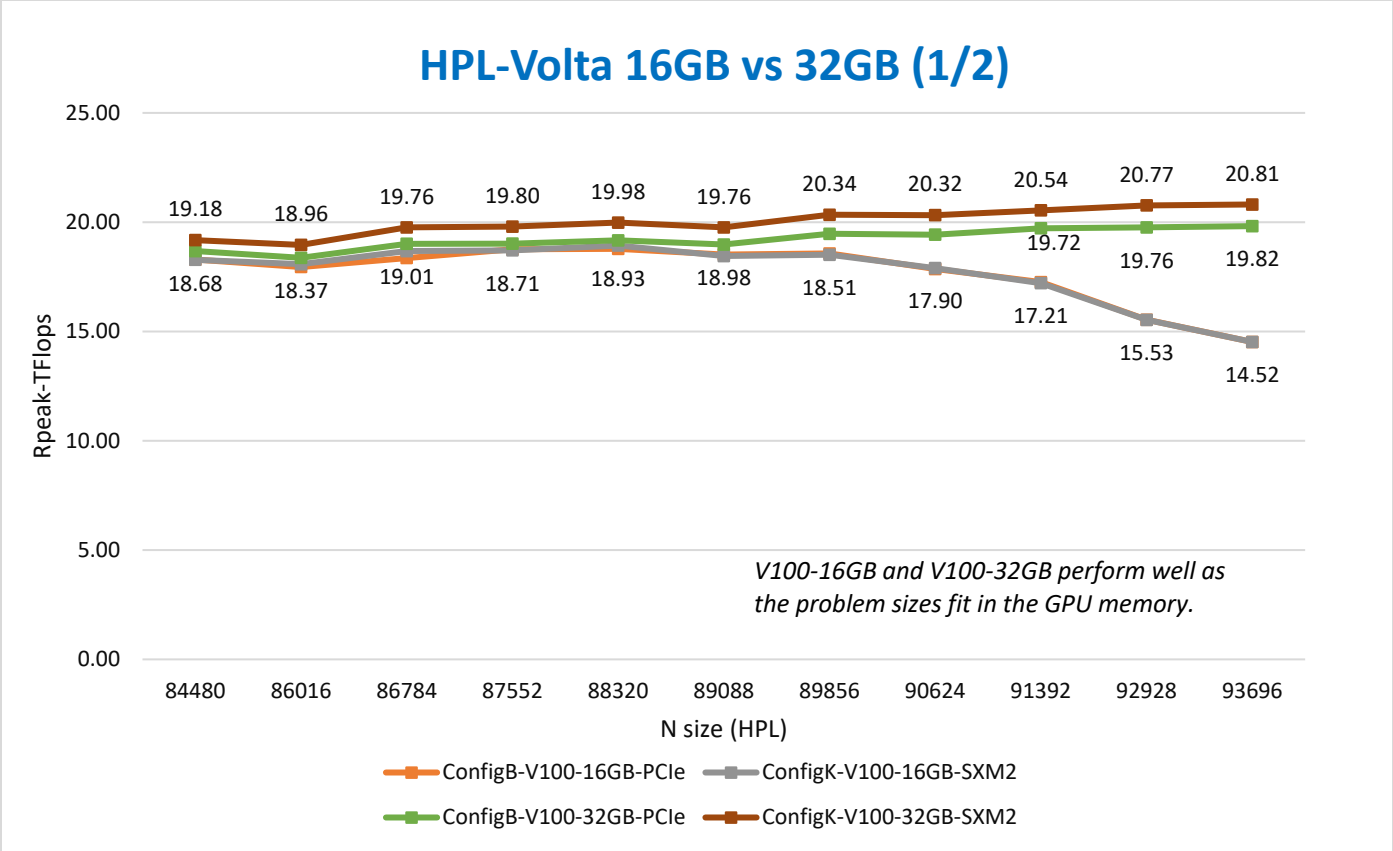
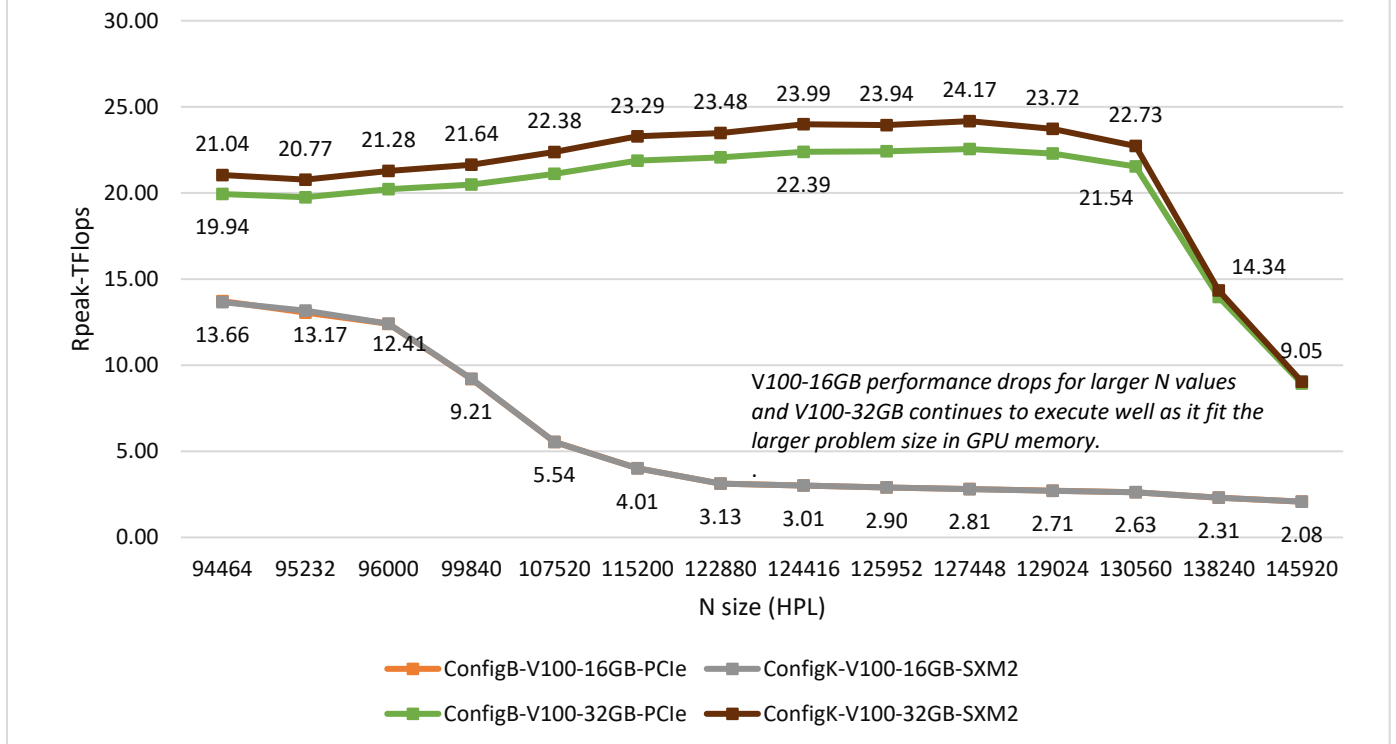

Figure 6: HPL performance with different problem sizes (N)
Figure 7: HPL performance with different problem sizes (N)
Figure 6 and Figure 7 shows the performance of V100 16GB vs 32GB GPU for different values of N. **Table 2** shows the configurations used for this test. These graphs help us visualize how the GPU cards perform with different problem sizes. As explained above, the problem size is calculated based on the size of the GPU memory, the 32GB GPU can accommodate a larger problem size than the 16GB GPU. When a problem size that is larger than what will fit in GPU memory is executed on a GPU system, the system memory attached to the CPU is used, and this leads to a drop in performance as the data must move from system memory to GPU memory. For ease of understanding the test data is split into two different graphs.
In Figure 6 we notice that the HPL performance for both the cards is similar until the problem size (N) approximately fills up V100-16GB memory, the same problem size (N) would approximately fill up half the memory for V100-32GB GPUs. In the second graph in Figure 7 we notice that the performance of the V100 16GB GPU drops as it cannot fit larger problem sizes in the GPU memory and must start to use system host memory. The 32GB GPU continues to perform better with larger and larger N until the problem size reaches the maximum capacity of the V100 32GB memory.